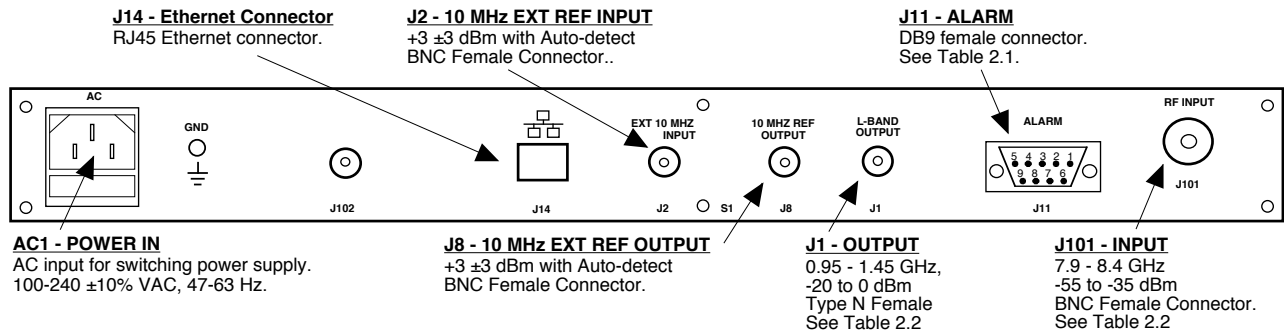

FIGURE 2.1 3116-79 Rear Panel I/O's
Figure 2.1 shows the input and output connectors on the rear panel.
1. Connect a -55 dBm to -35 dBm signal to RF IN, J101 (Figure 2.1).